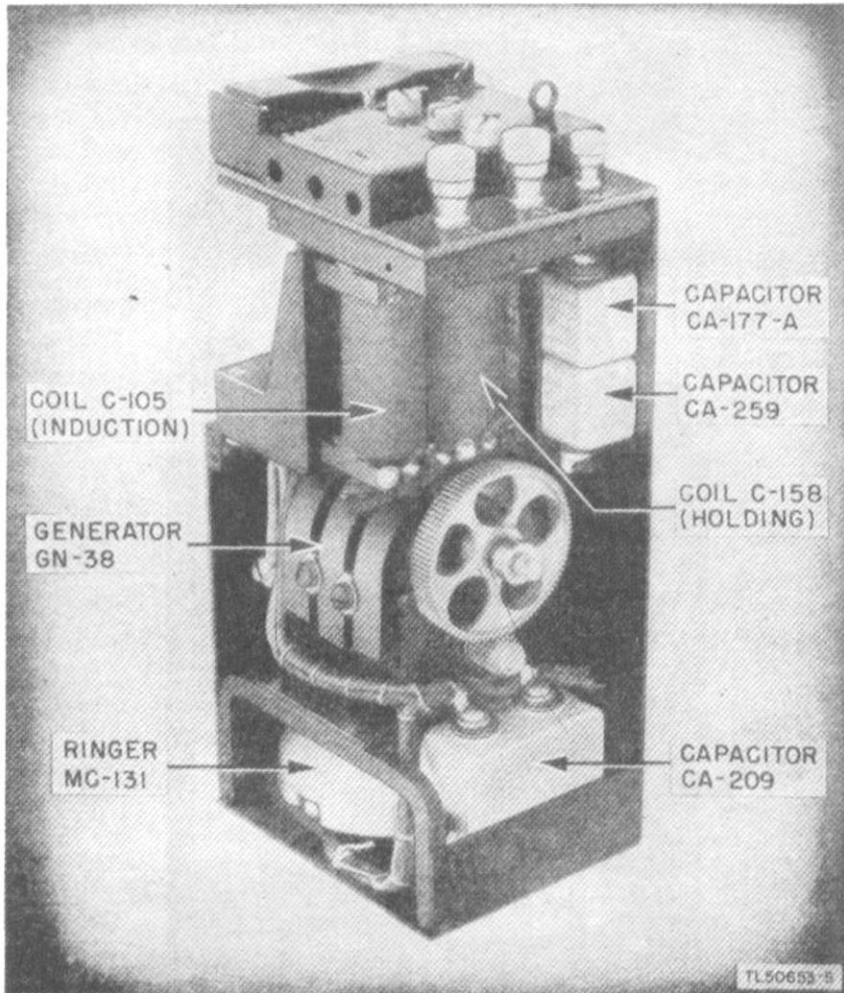
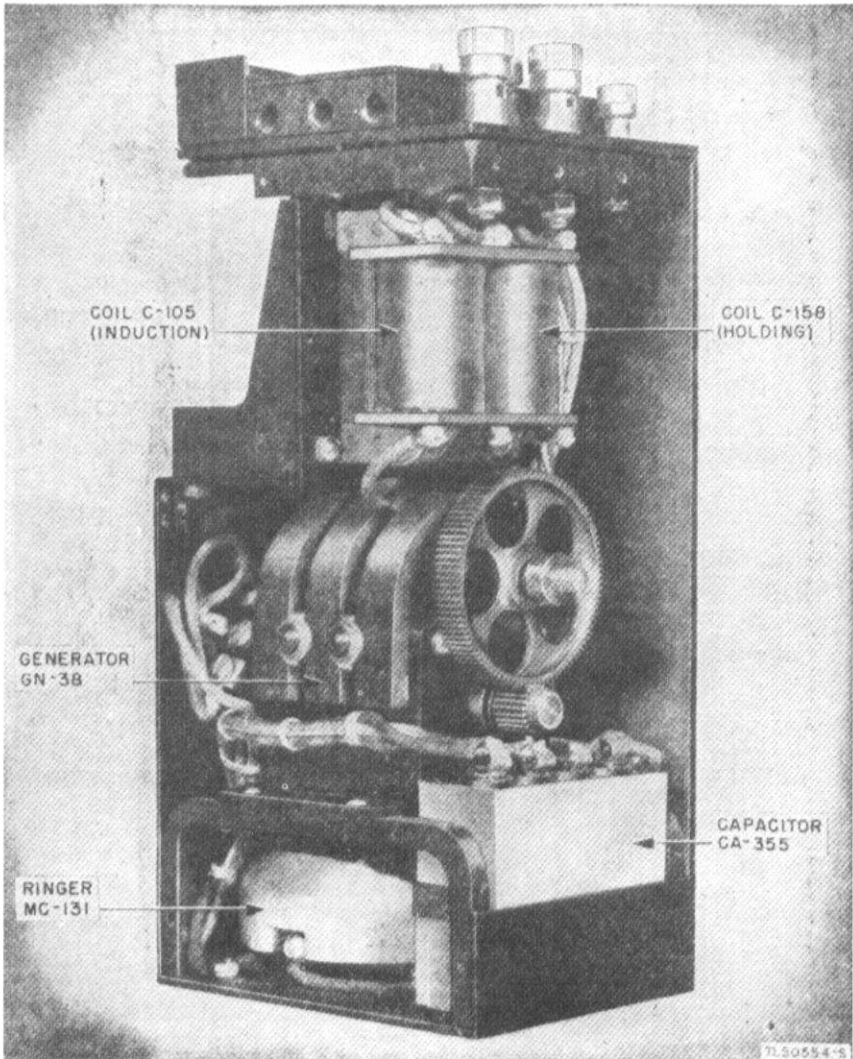
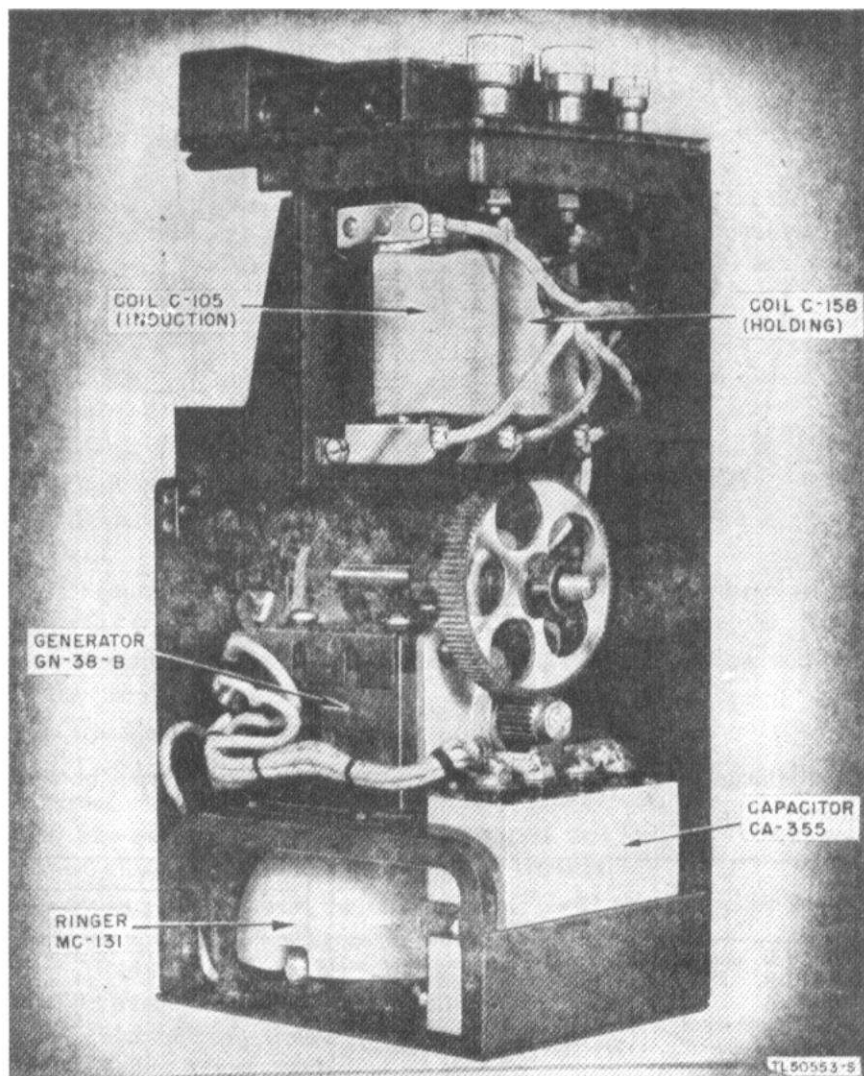

Figure 6. Telephone EE-8 body with the front wall, crank, and side wall removed.
Figure 7. Telephone EE-8-A body with the front wall, crank, and side wall removed.
Figure 8. Telephone EE-8-B body with the front wall, crank, and side wall removed.
(2) *Coils.* The induction coil (Coil C-105) and the holding coil (Coil C-158) are mounted directly under the terminal block (figs. 6, 7, and 8).
(3) *Generator GN-38(\*).* Generator GN-38, which is used in Telephones EE-8 and EE-8-A (figs. 6 and 7), or Generator GN-38-A or GN-38-B, which is used in Telephone EE-8-B (fig. 8), is mounted
(4) *Capacitors.* Capacitor CA-355 is mounted below and to the right of the generator in Telephones EE-8-A and EE-8-B. (See figs. 7 and 8). Telephone EE-8 uses Capacitors CA-209, CA-177-A, and CA-259. Capacitor CA-209 is mounted below and to the right of the generator, and Capacitors CA-177-A and CA-259 are mounted behind the holding coil with Capacitor CA-177-A on top. (See fig. 6).
(5) *Ringer MC-131.* Ringer MC-131 is mounted on the floor of the body and to the left of the capacitor. (See figs. 6, 7, and 8.)